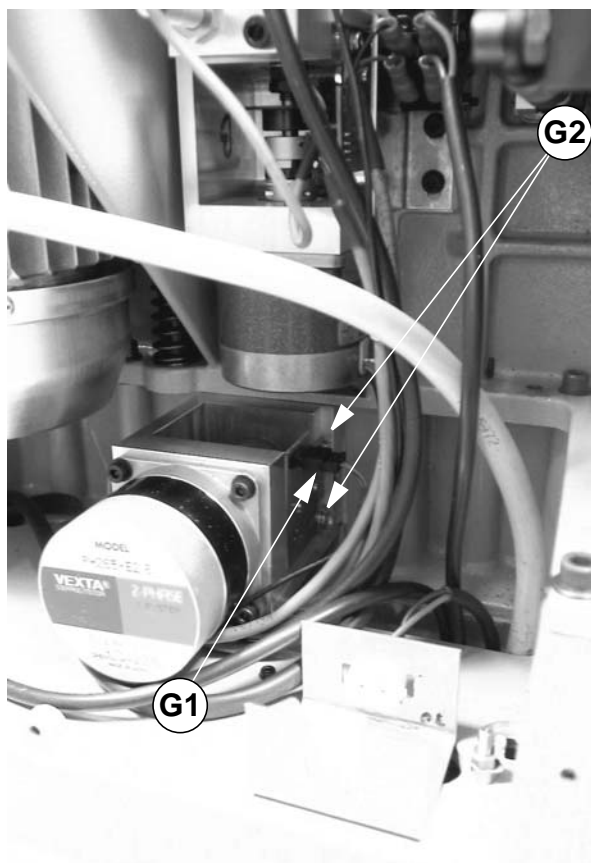

Fig. 45
- 4) disconnect the photocell wire (G1) (fig. 45).